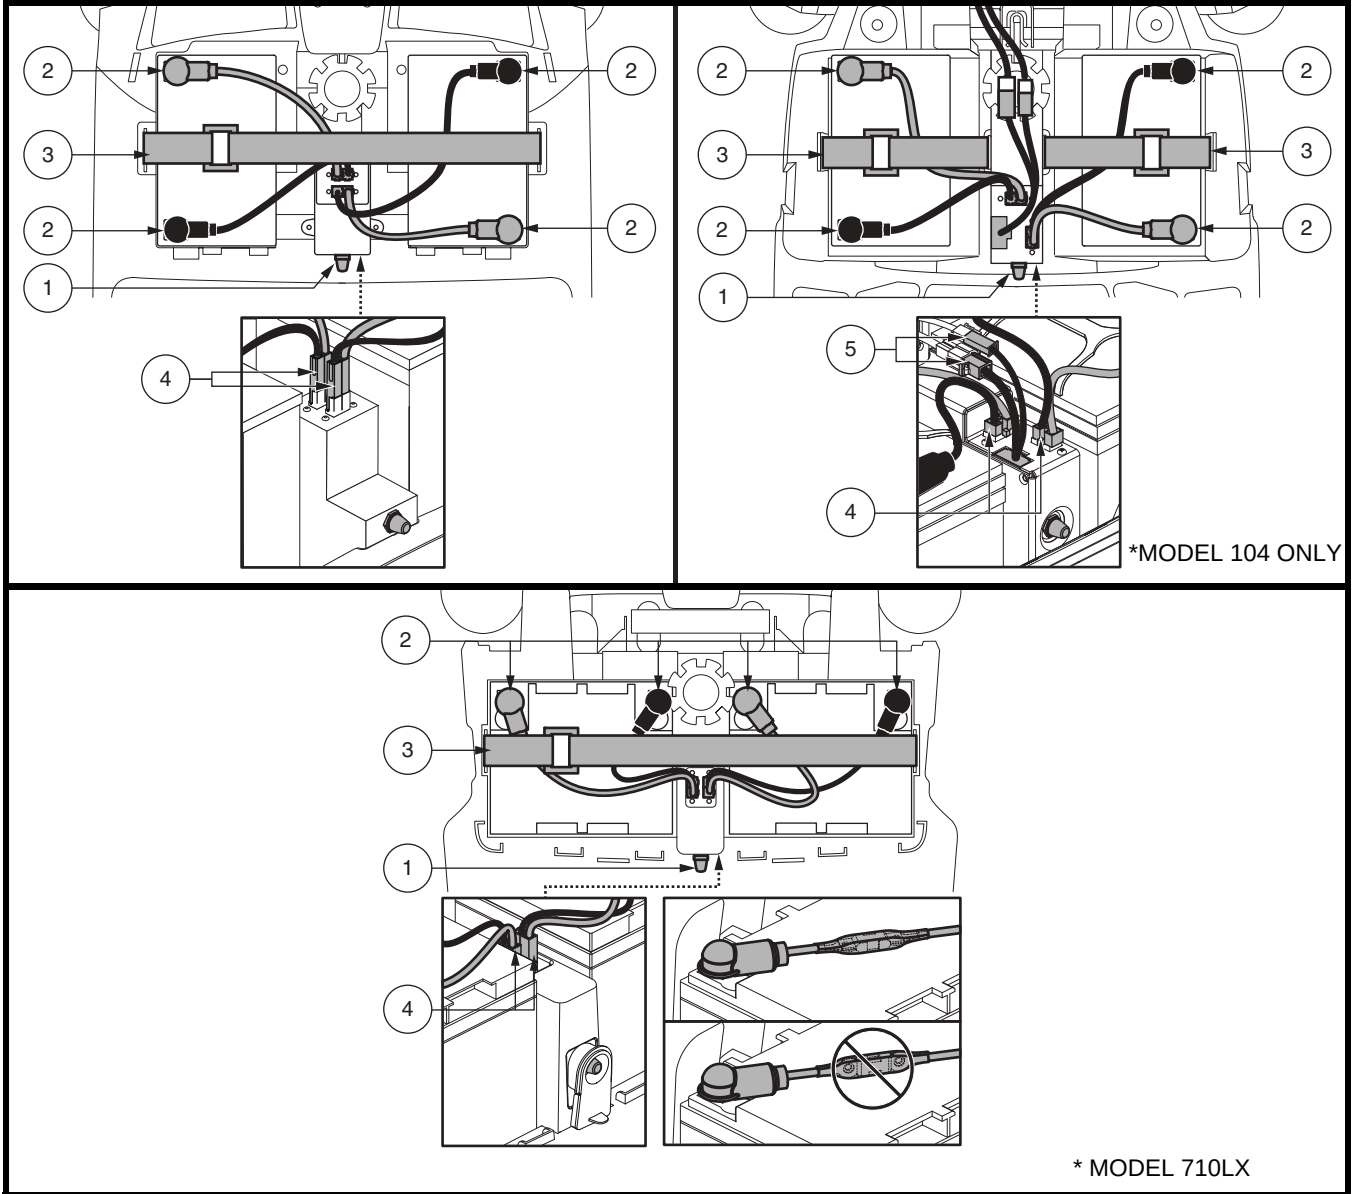

Figure 11. Battery Removal/Installation Terminals and Connections
2. Disconnect the battery tie-down strap. See figure 11.
3. Disconnect the battery harnesses by depressing the tabs on the battery harness connectors and pulling them straight up. See figure 11.
6. Place a new battery in each battery well. Face the battery terminals of each battery opposite each other and toward the outer sides of the scooter. See figure 11.